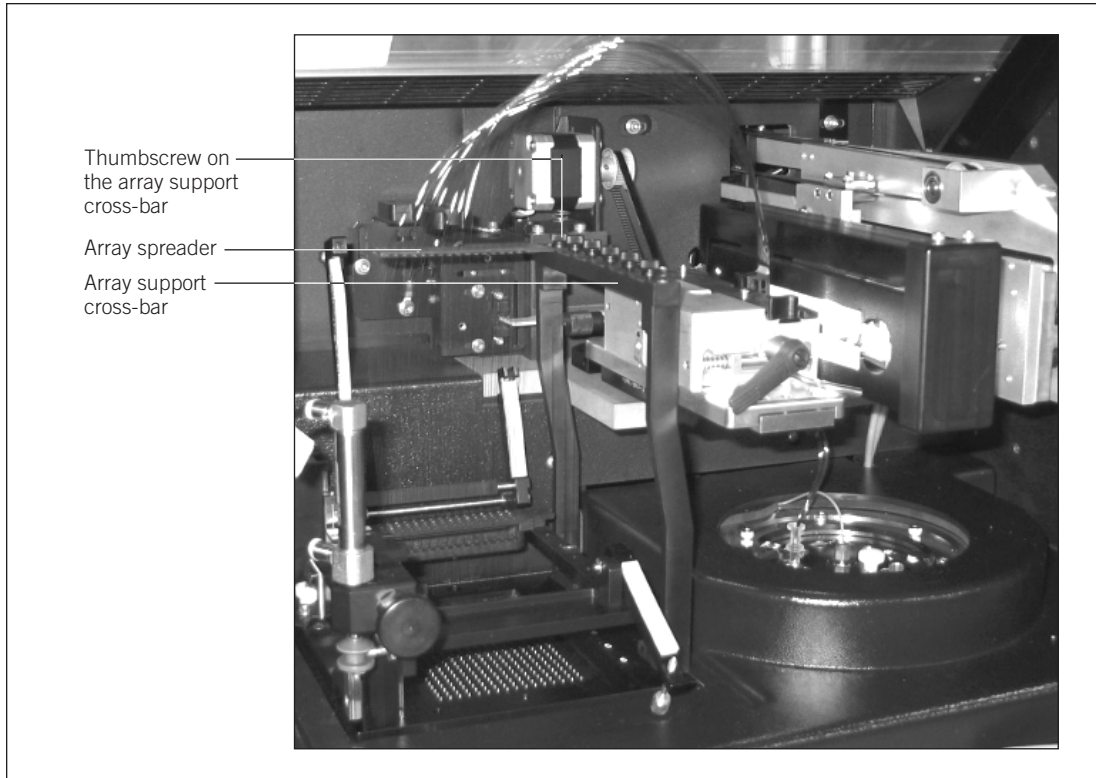

Figure 7-10. Securing the array spreader.
10. Slide the array spreader from the cathode bar up to the support cross-bar. Place the notched end of the array spreader in position under the thumbscrew on the support cross-bar. Tighten the thumbscrew to secure in place (figure 7-10).